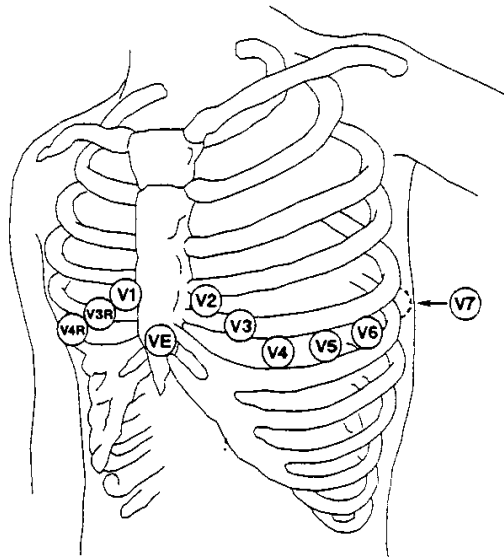

Figure 12-3 C-electrode Placement for 5-lead Set
- Red (R) electrode - Be placed near the right shoulder, directly below the clavicle.
- Yellow (L) electrode - Be placed near the left shoulder, directly below the clavicle.
- Black (N) electrode - Be placed on the right hypogastrium.
- Green (F) electrode - Be placed on the left hypogastrium.
- White (C) electrode - Be placed on the chest as illustrated in the Figure 12-3.
For 5-lead set, attach the C (V)-electrode to one of the indicated positions as below (Figure 12-3):